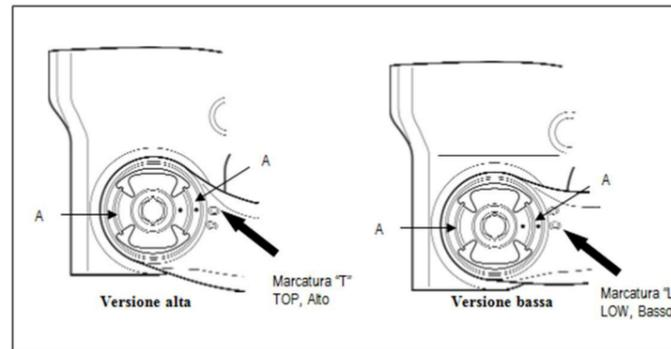

Fig. 1
**WARNING:** Assure that the pips on replacement pivot bush are in line with the correct alignment marking T (TOP MOUNT) or L (LOW MOUNT) and steel plates "A" are aligned front and rear, not top and bottom, as it's shown in Fig. 1
**NOTE:** Check the position and orientation of the original bush before removing (Fig 1). This will provide a guideline when fitting a new bush.